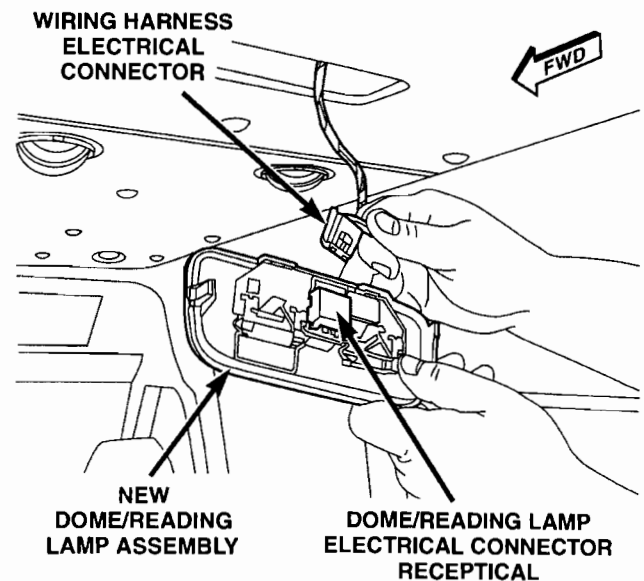

Figure 3
4. Pull the dome lamp unit from its mounting location far enough to access and disconnect the vehicle wire harness electrical connector from the dome lamp electrical connector receptacle (Figure 3).
7. Reconnect the vehicle wire harness electrical connector to the new dome/reading lamp electrical connector receptacle (Figure 3).